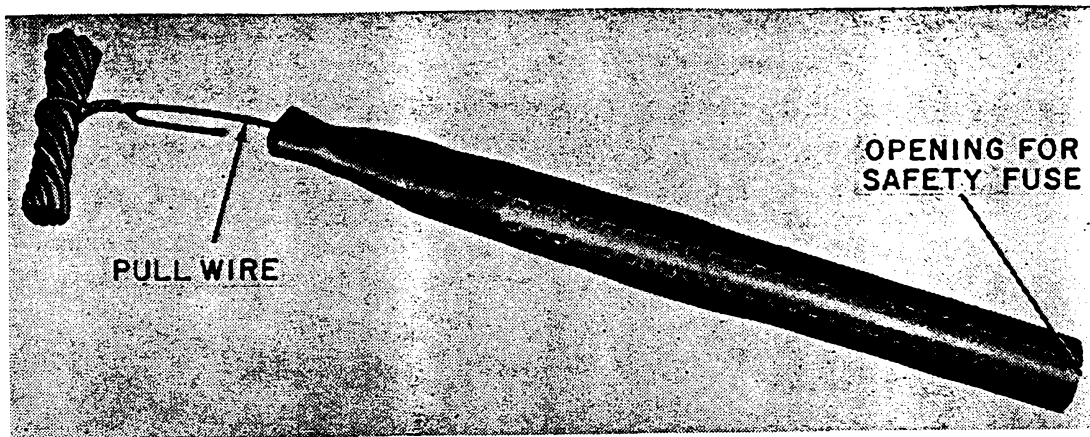

Figure 44. M1 friction-type fuse lighter.
- (1) The M1 friction-type fuse lighter (fig. 44) is a paper tube containing match-head mixture and having a pull-wire scratcher. The fuse lighter is installed on the end of safety fuse, and is held in place by internal teeth which grip the fabric covering of the safety fuse. To operate the M1 friction-type fuse lighter: